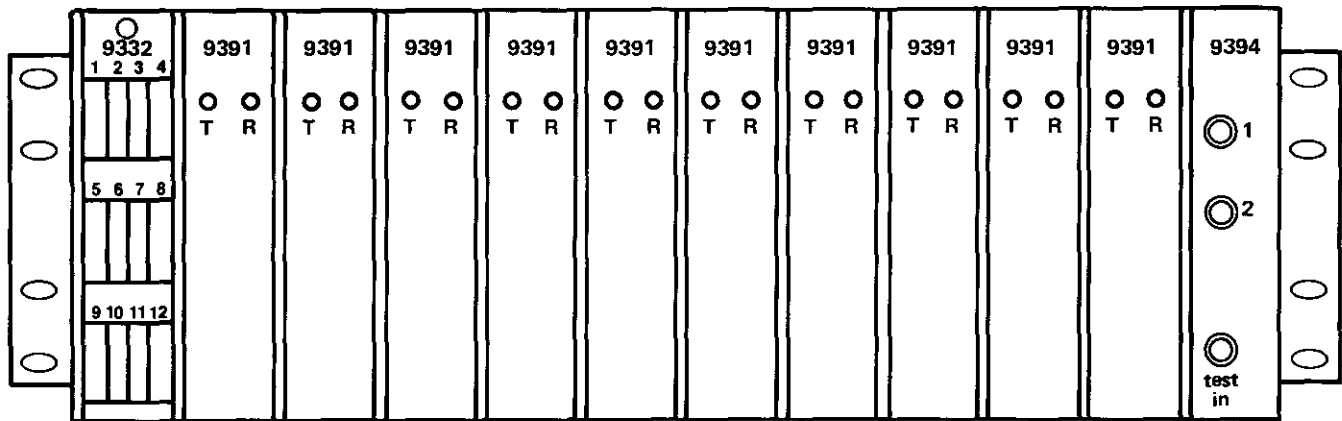
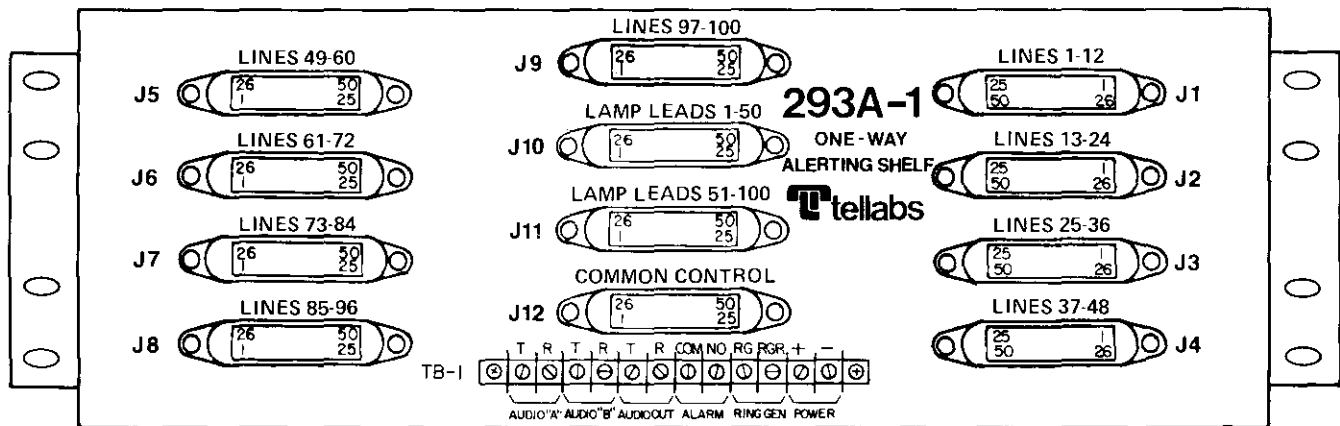

figure 2. Front view of 293 System
figure 3. Connectorized backplate of 293-1 Mounting Assembly
2.02 Larger Systems require the same items for each 100-station increment. In addition, a larger cabinet is needed and possibly a power supply with greater capacity. All 293 System modules are Type 10 modules. All modules and other System equipment operate on nominal -48Vdc power supply. Figure 2 shows a front view and figure 3 shows